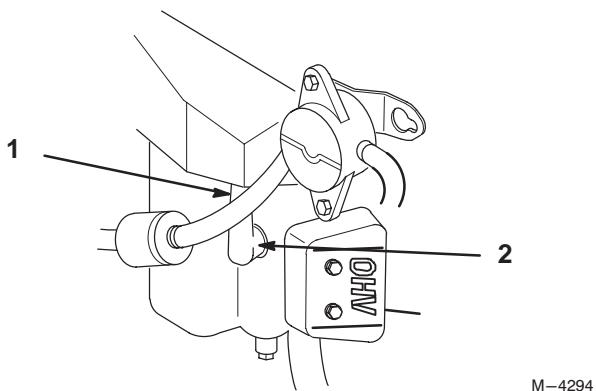

Figure 29
3. Pull the wire(s) off the spark plug(s) (Fig. 29). Now clean around the spark plug(s) to prevent dirt from falling into the engine and potentially causing damage.
3. Push the wire(s) onto the spark plug(s) (Fig. 29).